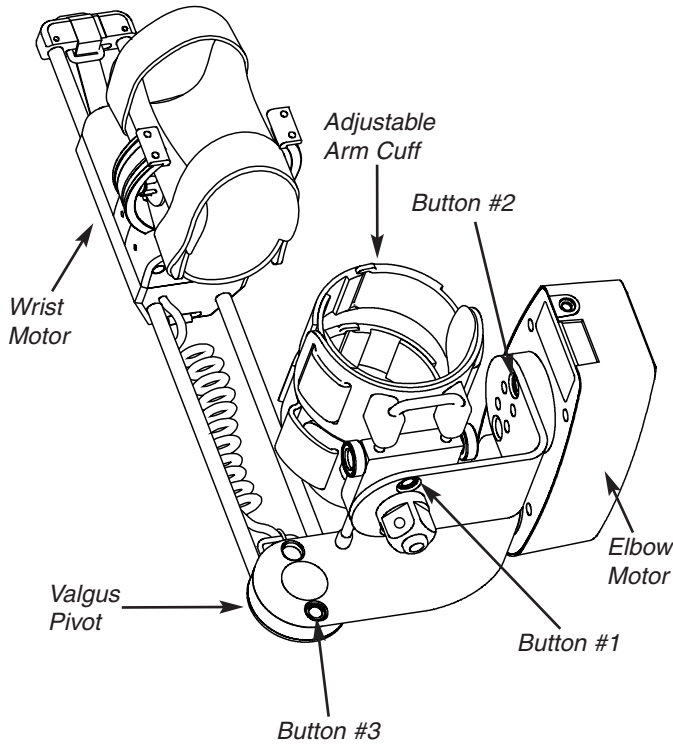

Fig. 2.9
- Depress blue buttons and rotate 180° as required in the following order: (See Fig. 2.9)
- Rotate Items 1), 2) and 3) through 180° from that shown in Fig. 2.9.